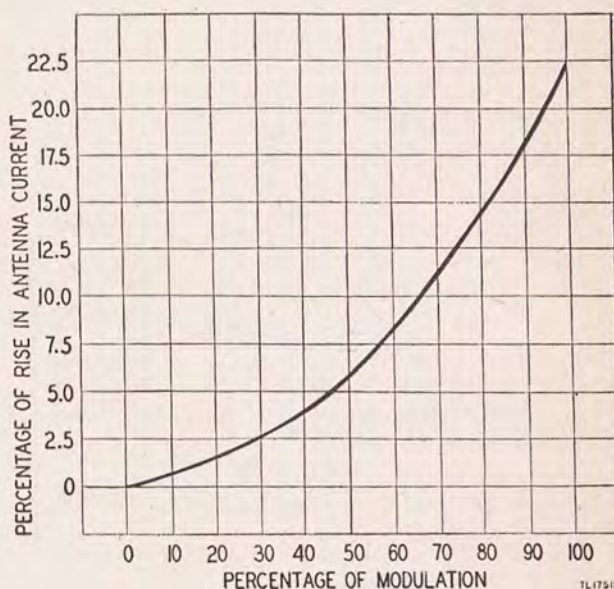

Figure 12. Modulation-percentage graph.
(4) Figure 12 shows a graph of the percentage of increase in antenna current plotted against the percentage of modulation. Referring to this graph, it can be seen that an increase in antenna current of 17.4 percent corresponds to approximately 86 percent modulation.